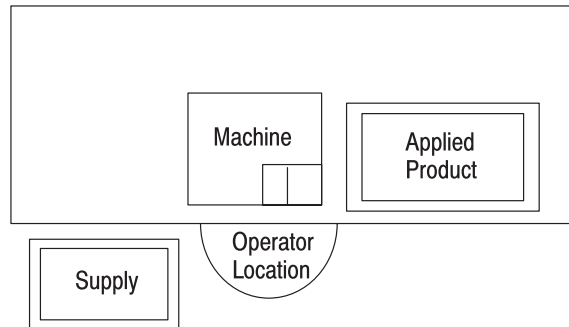

Figure 9
The location of the machine in relation to the operator's position is extremely important in terms of both safety and maximum efficiency. Studies have repeatedly shown that operator fatigue will be reduced, and greater efficiency achieved, if: (1) the bench is of appropriate height, preferably with sound-deadening rubber mounts; (2) the machine is properly located on the bench with ample work areas on both sides to facilitate work flow; (3) the operator uses a swivel chair with padded seat and back rest which are independently adjustable; and (4) the foot switch, on machines so equipped, is placed on a rubber mat to maintain its movability, while preventing it from sliding unintentionally. Figure 8 illustrates proper machine location and operator position. Figure 9 provides a typical materials location / plan layout.